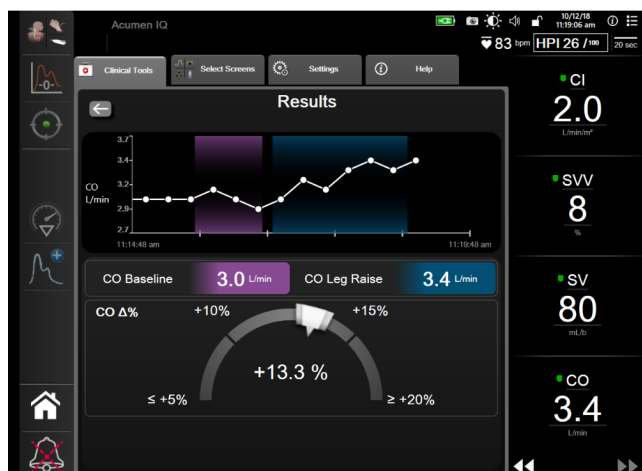

Figure 14-14: Fluid Responsiveness Test – Results Screen
- At the conclusion of the test, the change in the selected **Parameter** value as a response to the fluid challenge will be displayed. See Figure 14-14 on page 269. Touch the return icon to perform another test, or the home icon to return to the main monitoring screen.
9. At the conclusion of the test, change in the selected **Parameter** value as a response to the fluid challenge will be displayed. See Figure 14-14 on page 269. Touch the return icon to perform another test, or the home icon to return to the main monitoring screen.